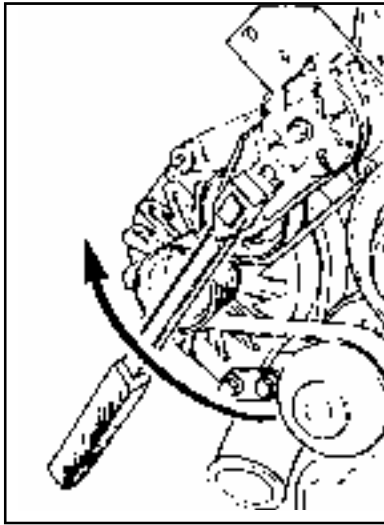
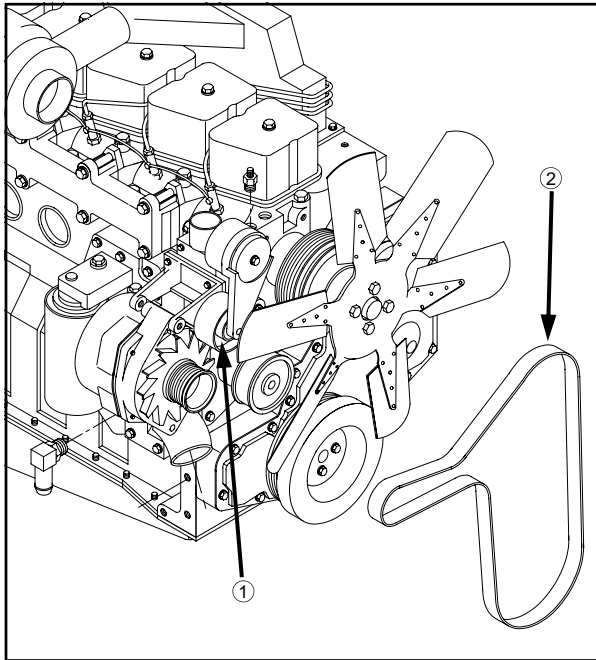

FIG 8.44
FIG 8.45
**REMOVAL** - Insert a 3/8 inch square ratchet drive (fig. 8.44) into the belt tensioner (8.45, item 1) and lift upward to remove the belt (fig. 8.45, item 2).